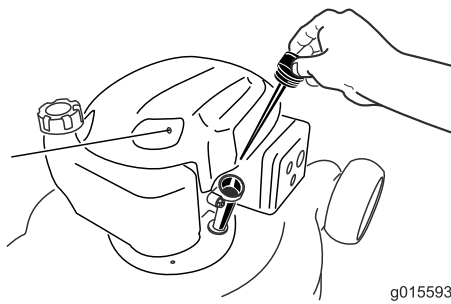

Figure 6
2. Remove the dipstick (Figure 6) and pour about 3/4 of the crankcase capacity of oil into the oil-fill tube.